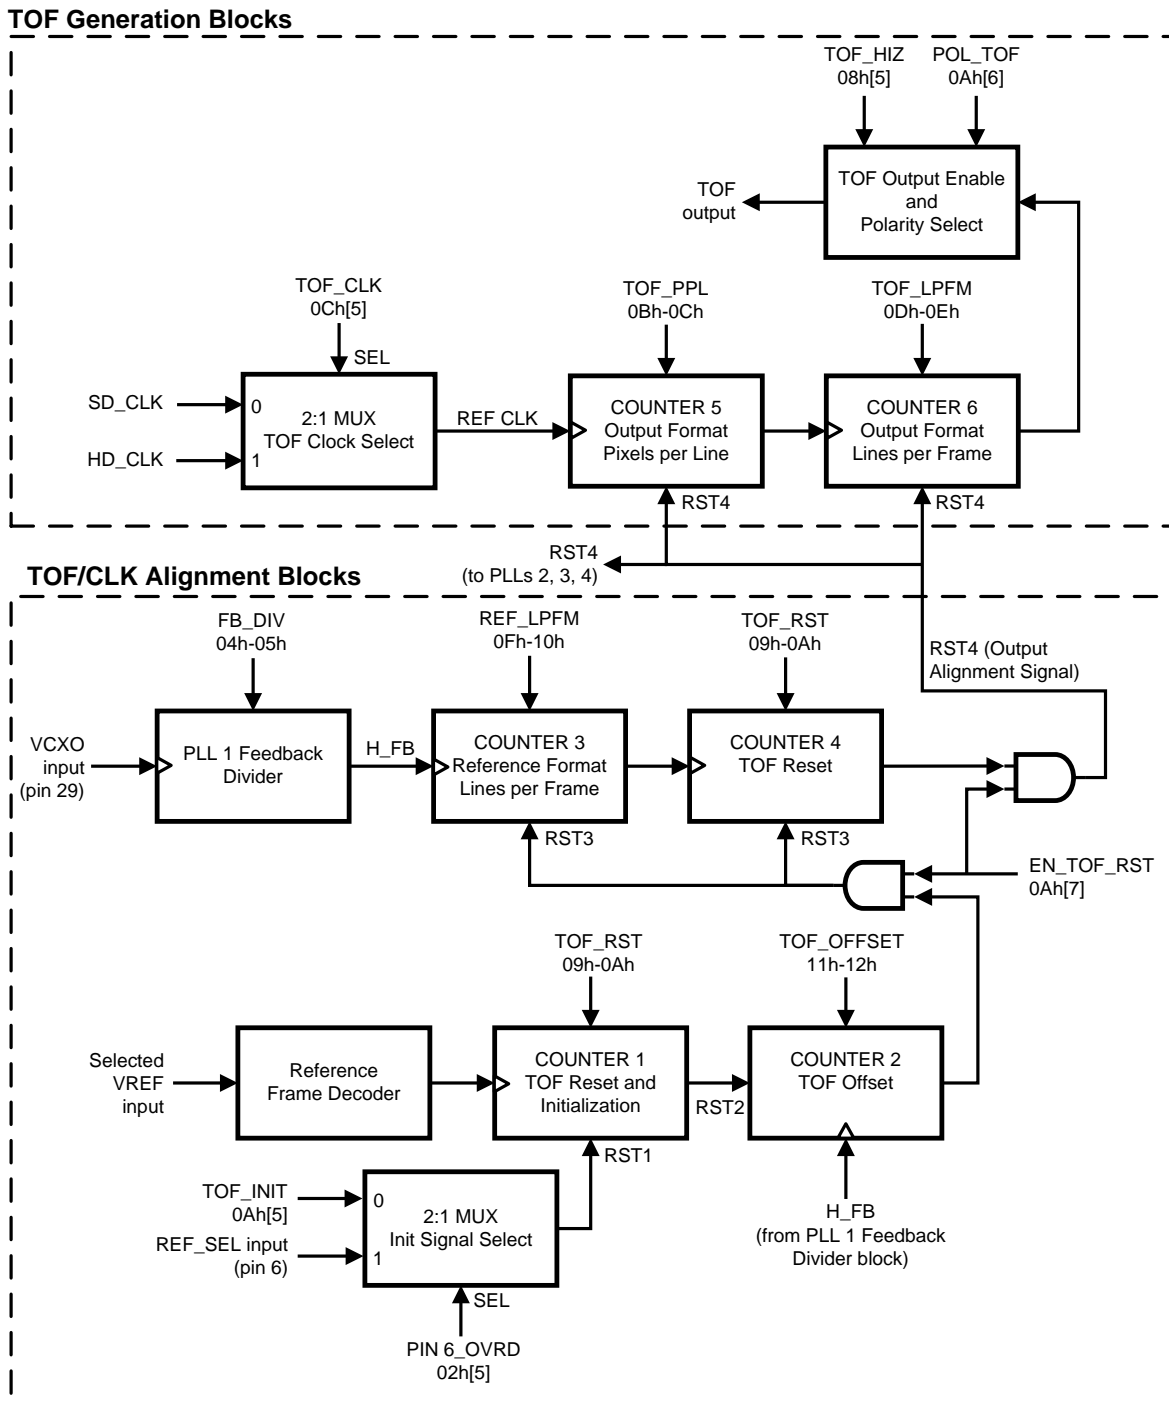

Figure 12. Functional Block Diagram – TOF Generation and Output Initialization Circuitry
When PLL 1 is stable and locked to the input reference, the output format timing should be specified. The functional block diagram for TOF generation and output initialization is shown in Figure 12.
The TOF pulse is derived from a counter chain, which receives either output clock (SD\_CLK or HD\_CLK) from a 2:1 MUX block, as shown in Figure 12. The TOF clock from the MUX can be selected by programming TOF\_CLK (register 0Ch). To select SD\_CLK as the TOF clock, set TOF\_CLK = 0; otherwise, set TOF\_CLK = 1 to select HD\_CLK. The selected TOF clock frequency is determined by the SD\_FREQ or HD\_FREQ register setting.
The TOF pulse is specified by programming TOF\_CLK, TOF\_PPL (register 0Bh-0Ch) and TOF\_LPFM (register 0Dh-0Eh). These registers configure the 2:1 MUX and output pixel and line counters in the TOF Generation blocks shown in Figure 12. The output frame or TOF pulse rate is determined by:
Using Option 1) for HD output formats can result in TOF output delay being offset by more than one TOF clock period, even after output initialization. This is because the very short period of the HD native clock yields little timing margin for the reset signals to propagate through the internal logic in Figure 12. For example, using a TOF clock of 148.5 MHz gives less than 6.7 ns (< 1 clock cycle) for all the logic to completely synchronize and ensure proper output initialization.
If the alternative set of divider and REF\_LPFM values are programmed per (1) for a lower PLL 1 phase comparison frequency, then the output frame cannot be offset to any horizontal line of the reference. Instead, the output frame can only be aligned to the reference in 5 lines steps per 1 step of the TOF\_OFFSET value, up to a maximum of reference's total lines per frame divided by 5 (i.e. REF\_LPFM). This is because the phase comparison frequency (H\_FB signal in Figure 12) will be lower than the H sync input frequency by 5x due to the use of the alternative divider values.